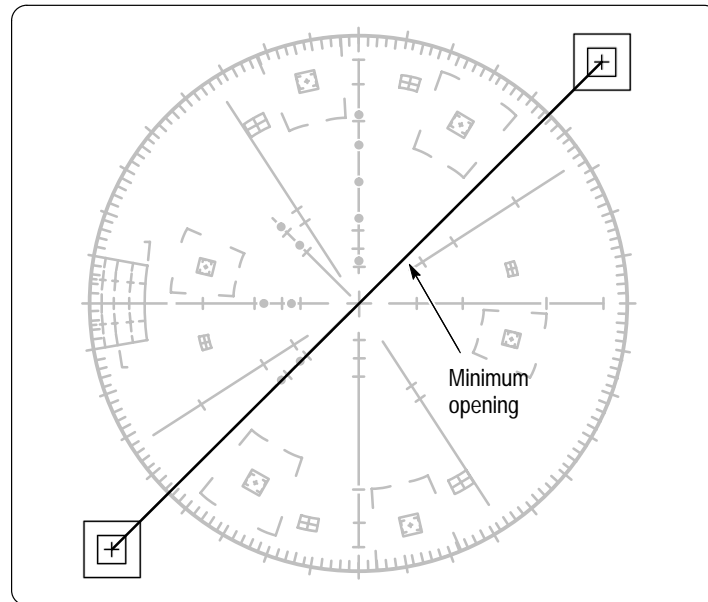

Figure 5-6: Audio frequency XY display.
- d. CHECK** – that there is a trace width or less separation in the diagonal display. See Figure 5-6.